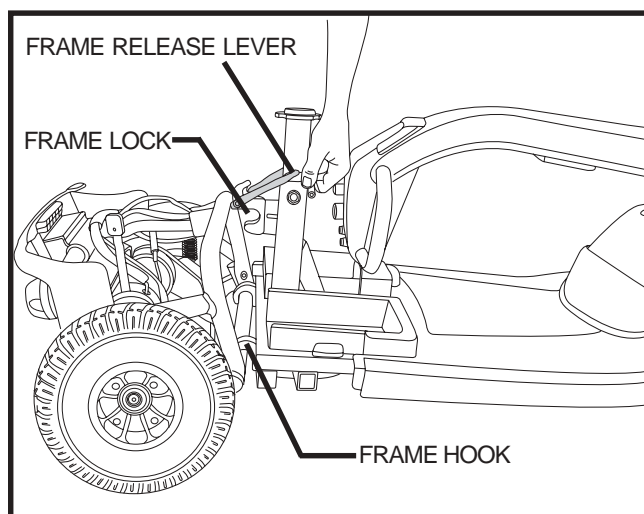

Figure 21. Frame Release
1. Lift up on the frame release lever. See figure 21.
2. Lift the front section up until the frame hooks of the front section separate from the rear section. See figure 21.
3. Once the frame hooks are over the lower frame tube, lower the front section completely. This will engage the frame lock. See figure 21.